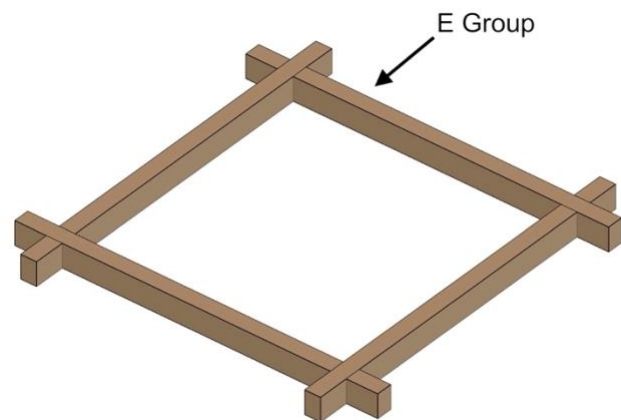

Fig. 56
- Fig. 56 shows the completed process.